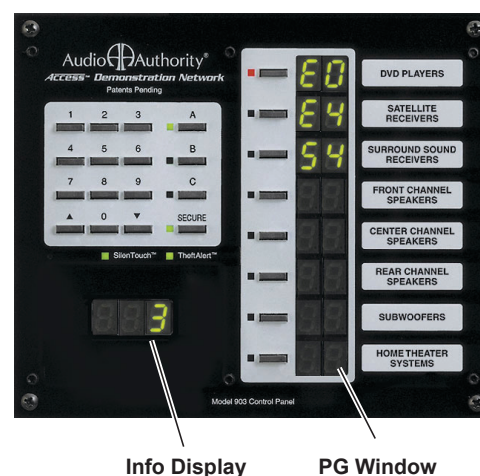

Figure 5. Address Scan: In Control Panels, “E” refers to Electronics switching modules and “S” refers to Speaker switching modules.
- The third PG window (*shown in Figure 5*) displays “S4” as Info Display scans up to 3 (good.)